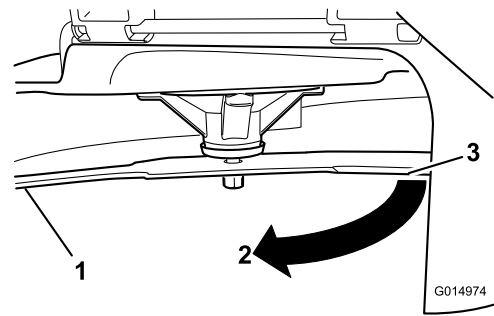

Figure 72
3. Measured distance between blade and the surface (A)
4. Rotate the same blade 180 degrees so that the opposing cutting edge is now in the same position (Figure 72).